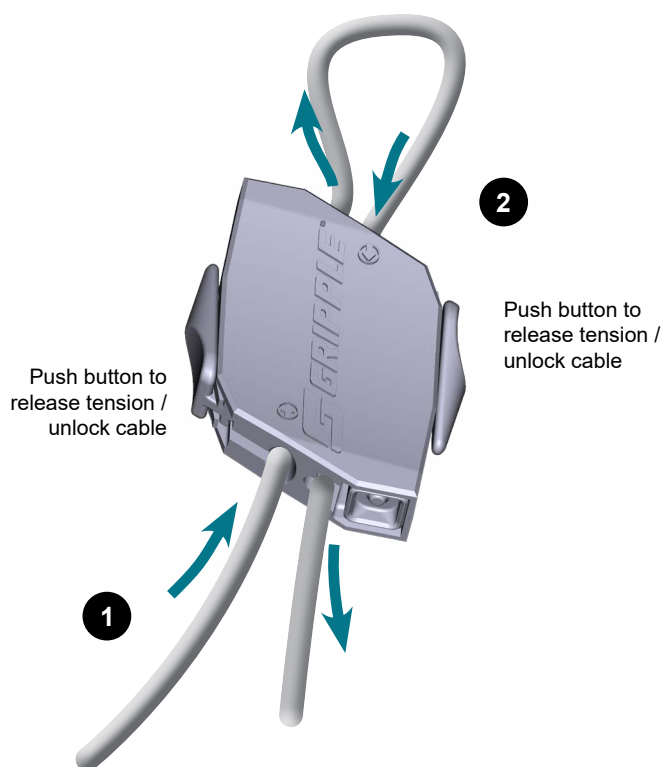

Figure 1a. Insert cable in the Gripple, over or through support and back through Gripple
1. Thread the snaphook cable through the opening in the locking device (Gripple) in the direction of the arrow shown on the unit (1). See Figure 1a.
2. Loop the snaphook cable over or through a secure structure, and pass the cable back through the Gripple, using the closest opening (2). Pressing the appropriate button will allow the cable to move through that side of the device (Figures 1a & 1b).